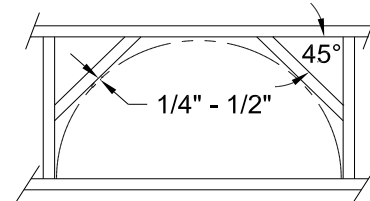
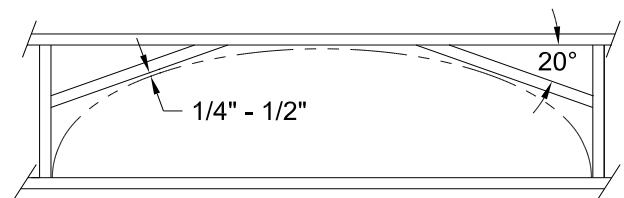

Fig. 1a
Fig. 1b
3. If installing a "half-round" or "elliptical" transom, you will need to install additional anchor points to secure the transom as shown in Fig.1a or Fig.1b. Installing a rectangular transom will be similar but without adding extra braces.
Use 2x4 material or as close to the width of the wall opening as possible and fasten down. For a "half-round" transom, place both braces so that they are in a 45° angle and spaced with 1/2" clearance above the transom jamb, as shown in Fig. 1a. For an "elliptical" transom, place both braces so that they are in a 20° angle and spaced with 1/2" clearance above the transom jamb as shown in Fig. 1b.